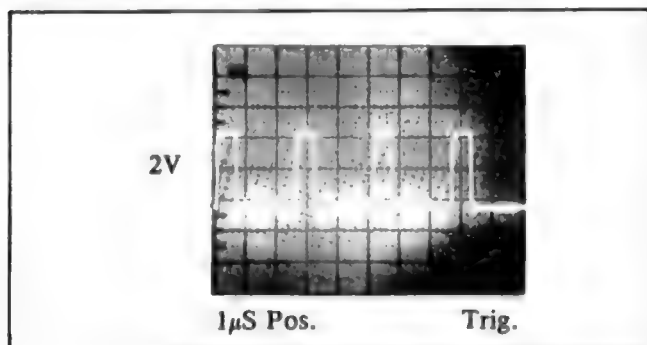

Figure 7-D-1. U501 ALE Signal
b. Make sure the ALE line at U501 pin 11 is good, as shown in Figure 7-D-1. If the signal is missing or wrong,